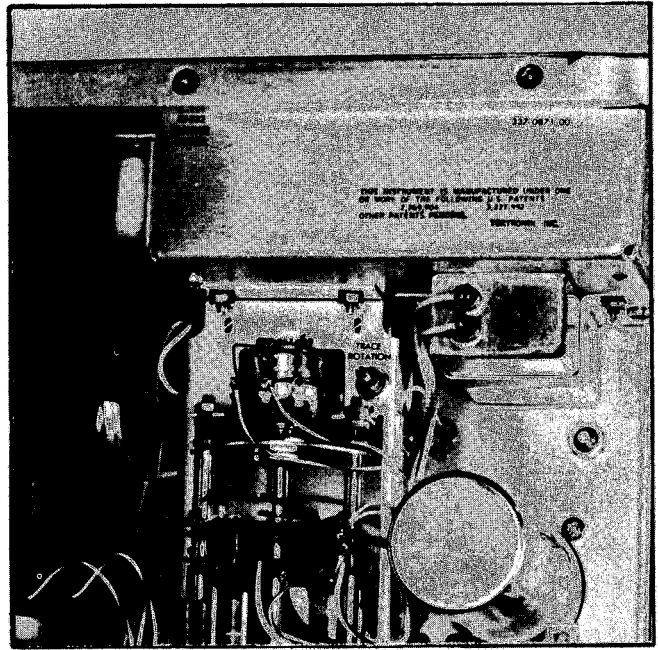

Fig. 6-8. Location of Trace Rotation R1035.
c. Adjust the Trace Alignment R1035 (see Fig. 6-8) so the trace is aligned with the horizontal graticule centerline.